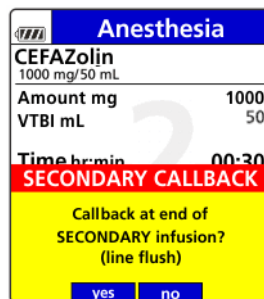

Figure 57. Secondary Callback Dialog Box.
1. When finished programming a secondary infusion, if Secondary Callback is enabled as optional (per drug in the Drug Library), a dialog box is displayed asking if a callback is needed at the completion of the secondary infusion. See Figure 57.